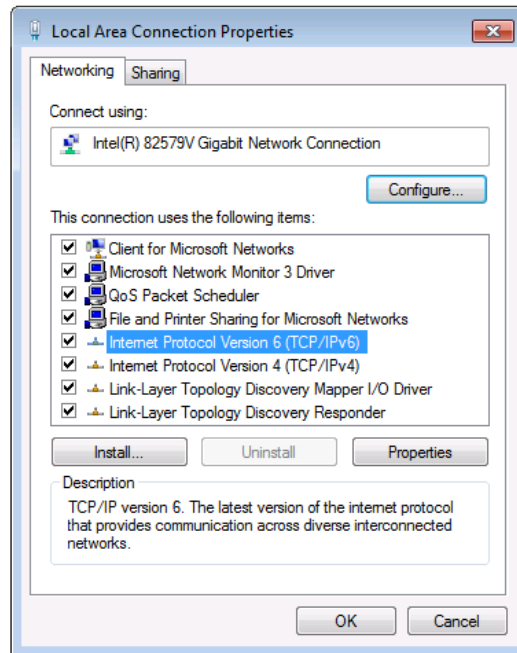

Figure 4: Local Area Connection Properties Window
3. Highlight the network adapter you want to use to connect to the device and click **Change settings of this connection**. The Local Area Connection Properties window for the selected network adapter appears as shown in Figure 4.